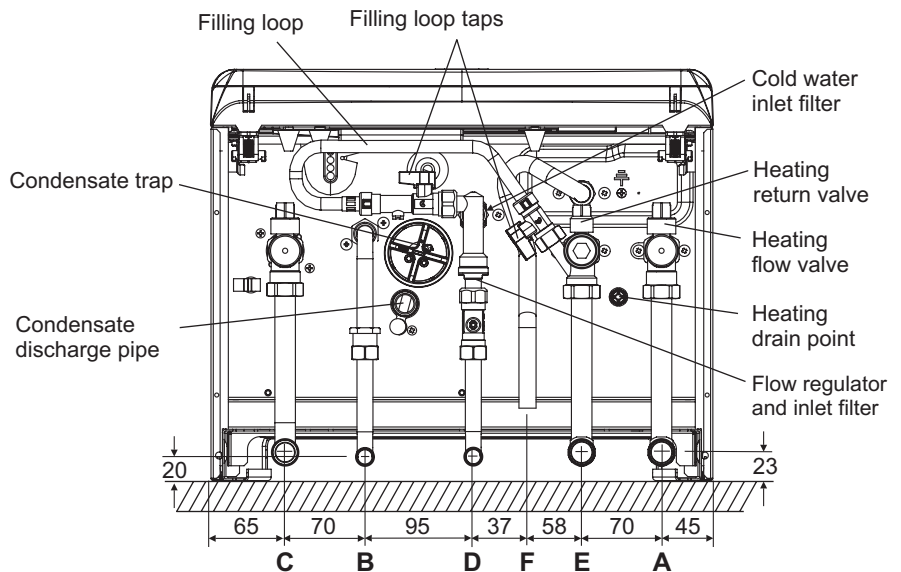

Fig. 12
4.5 CONNECT THE PIPEWORK - Fig. 12